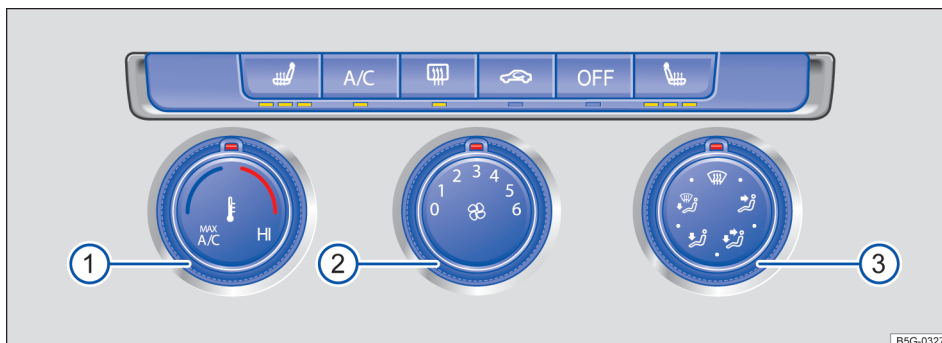
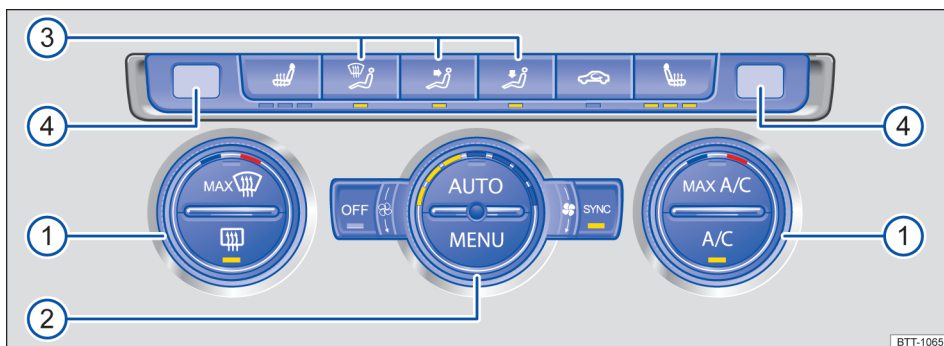

Fig. 88 In the center console: Manual controls.
Fig. 89 In the center console: Climatronic controls.
- *Manual air conditioning:* Turn the fan knob to 0 → fig. 88 ②.
– *Climatronic:* Turn the fan knob as far left as it will go → fig. 89 ②
- **OR:** Press the **(MENU)** button on the Climatronic controls → fig. 89 ② to open the Climatronic menu in the Infotainment system and switch the system off.
- **Manual air conditioning:** Turn the temperature knob → **fig. 88 ①** all the way to the left (MAX A/C position).
- **Manual air conditioning:** Turn the temperature knob → **fig. 88 ①** to set the temperature.
- **Climatronic:** Turn the outside knobs → **fig. 89 ①** to set different temperatures for the driver and passenger sides. The displays above the knobs **④** show the set temperature.
- Turn the middle knob → **fig. 88 ②** or → **fig. 89 ②** to adjust the fan speed.
- **Manual air conditioning:** Turn the knob → **fig. 88 ③** to direct air flow in the desired direction.
- **Climatronic:** Press the buttons → **fig. 89 ③** to direct air flow in the desired direction. When automatic regulation (**AUTO**) is switched on, air flow is automatically adjusted to a comfortable level. Options vary, depending on equipment:
- **Manual air conditioning:** Turn the right knob to position **🌨** → **fig. 88 ③** to defrost the windshield as quickly as possible. The cooling system switches on automatically to dehumidify the air. When the defrost function is switched on, the air recirculation mode cannot be switched on.
- **Climatronic:** Press the **MAX 🌨** button → **fig. 89 ①** to defrost the windshield as quickly as possible. The incoming outside air is directed to the windshield, and air recirculation automatically switches off. Humidity is removed from the air at temperatures above about +35 °F (+1.5 °C), and the blower is set to a high speed.